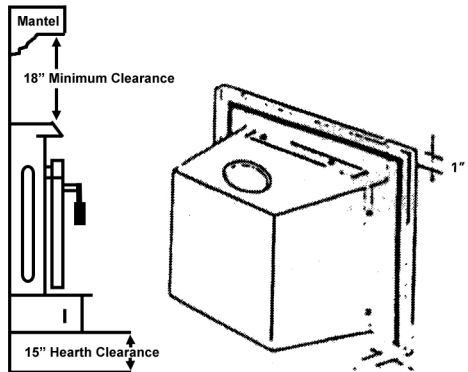

FIGURE 2
5. See figure 2 for Mantel Clearance